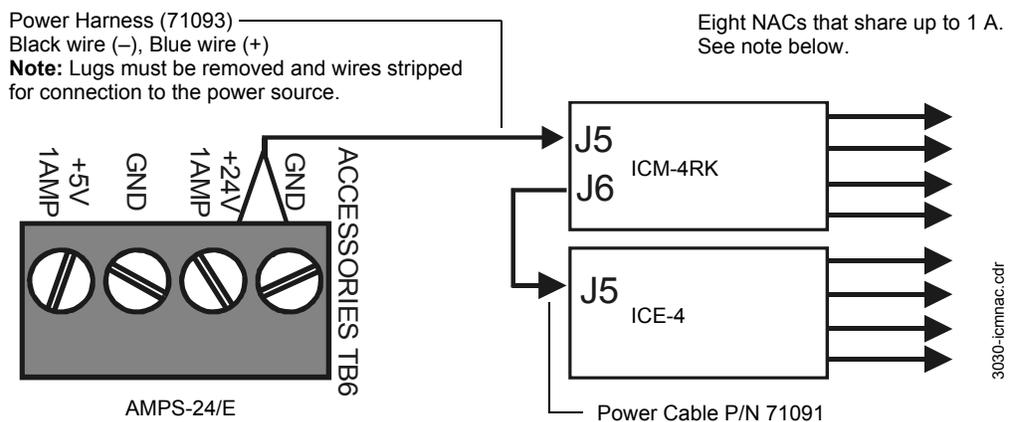

Figure 3.14 ICM-4RK/ICE-4 Main Power Supply Connection
8. For power wiring see Figure 3.14.
Figure 3.14 illustrates typical connections from the main power supply. Figure 3.15 shows location of those connections on the bottom of the ICM-4RK and the ICE-4 modules.